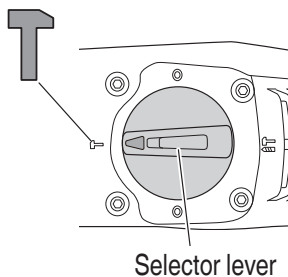

Fig. 10
- (1) Switching to “hammering”
- (b) Align ▲ of the selector lever and T of the crank cover as illustrated in Fig. 10.